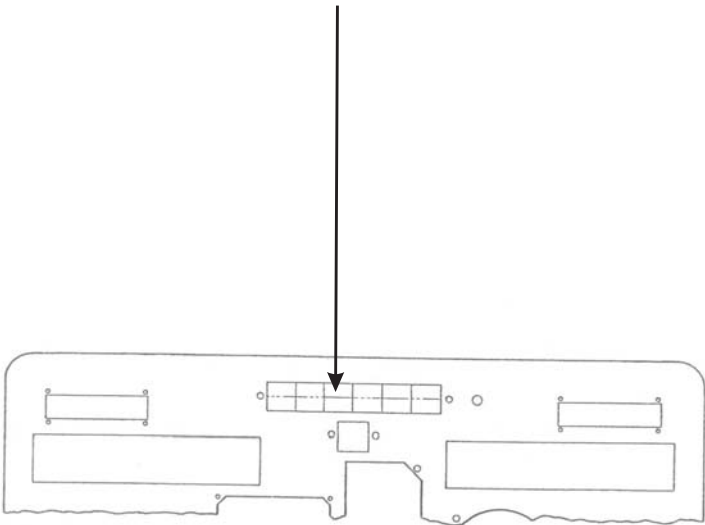

Figure 3-1. Caution and Warning Lights
- The light panel is located at the top of the instrument panel (Fig. 3-1).
- • Refer to Para 3-1 and Fig. 3-1.
- • Refer to Fig. 3-1.
- Refer to Fig. 3-1.
- Refer to Para 2-3 and Fig. 3-1.